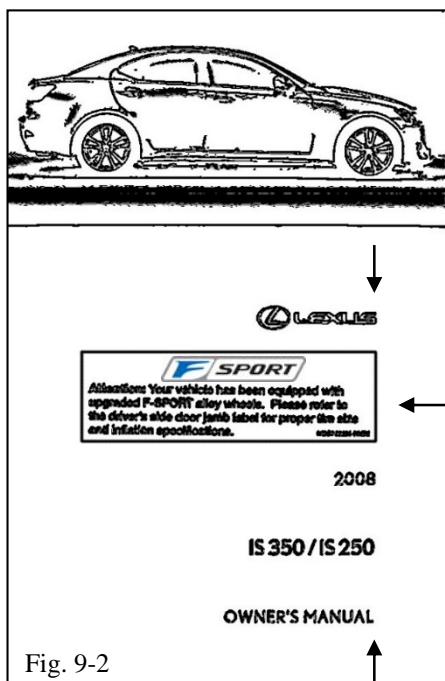

Fig. 9-2
- (c) Install the Owner's Manual Label (MDC P/N **00602-35062**) onto the front cover of the owner's manual (Fig. 9-2). Line up the right side of the label with the text stack as shown by the arrows in Fig. 9-2. Center the label vertically between LEXUS & year text.